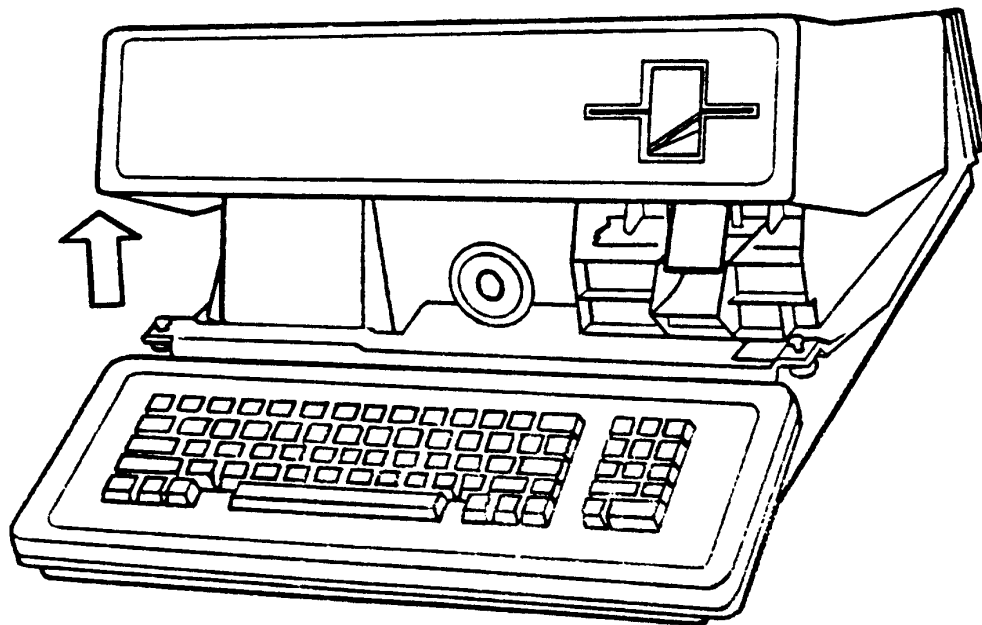

FIGURE 1.3
5. Lower the Apple /// to the operating position and with a hand on each side of the access cover lift up and pull forward to remove. Refer to Figure 1.3.